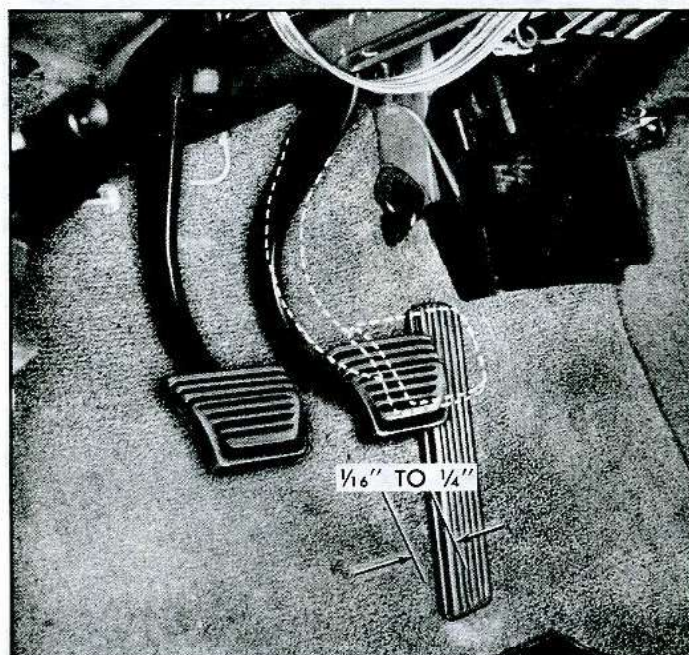

Fig. 6—Brake Pedal Free Movement
2. Turn push rod in proper direction to obtain correct adjustment. Upward movement of the pedal pad before the pedal arm contacts the pedal stop must be 1/16 to 1/4 inch (fig. 6).